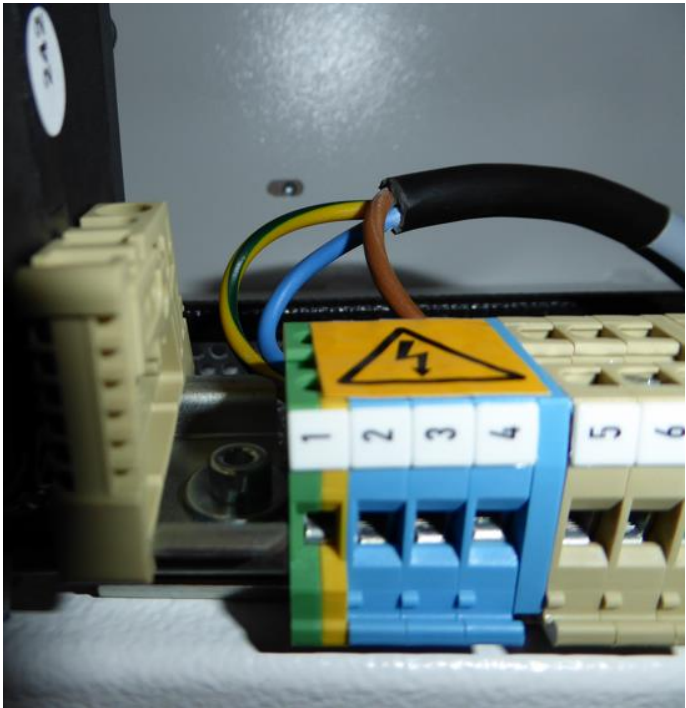

Figure 23: Connecting main recap cable to X7 connector block
- 10 ► Add electrical hazard label to left side of X7 connector block as shown in Figure 23.